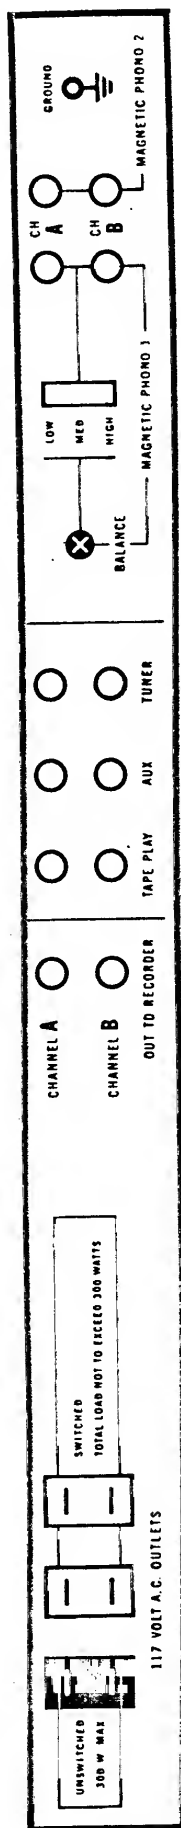

Figure 1-1 INPUT PANEL
1.2 INPUT PANEL CONNECTIONS (See figure 1-1).